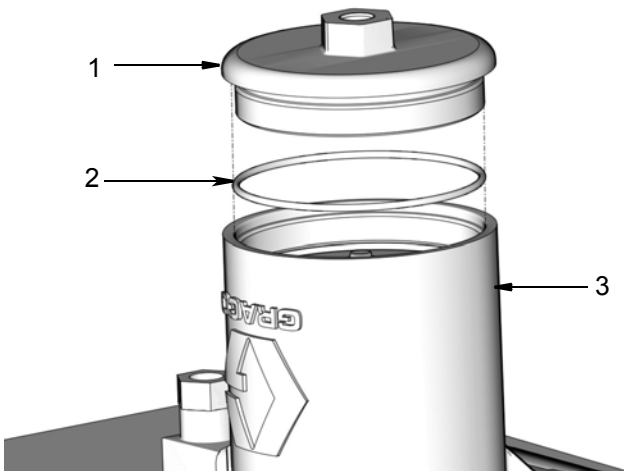

FIG. 22
19. Remove cover (1), cover o-ring (2) and spring (6). Dispose o-ring according to all regulations for proper disposal (FIG. 22).